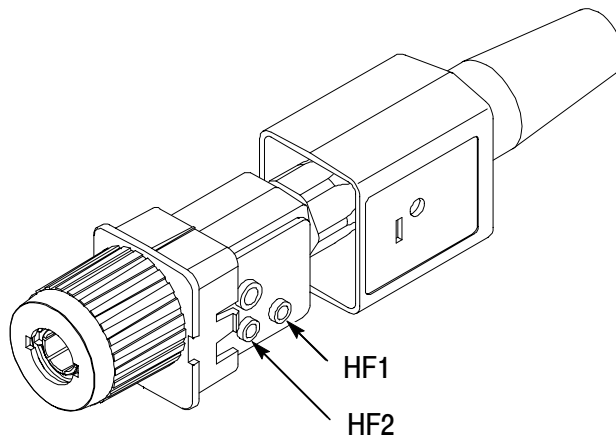

Figure 8: HF Compensation Adjustments
8. Locate the **HF1** and **HF2** adjustments. See Figure 8.